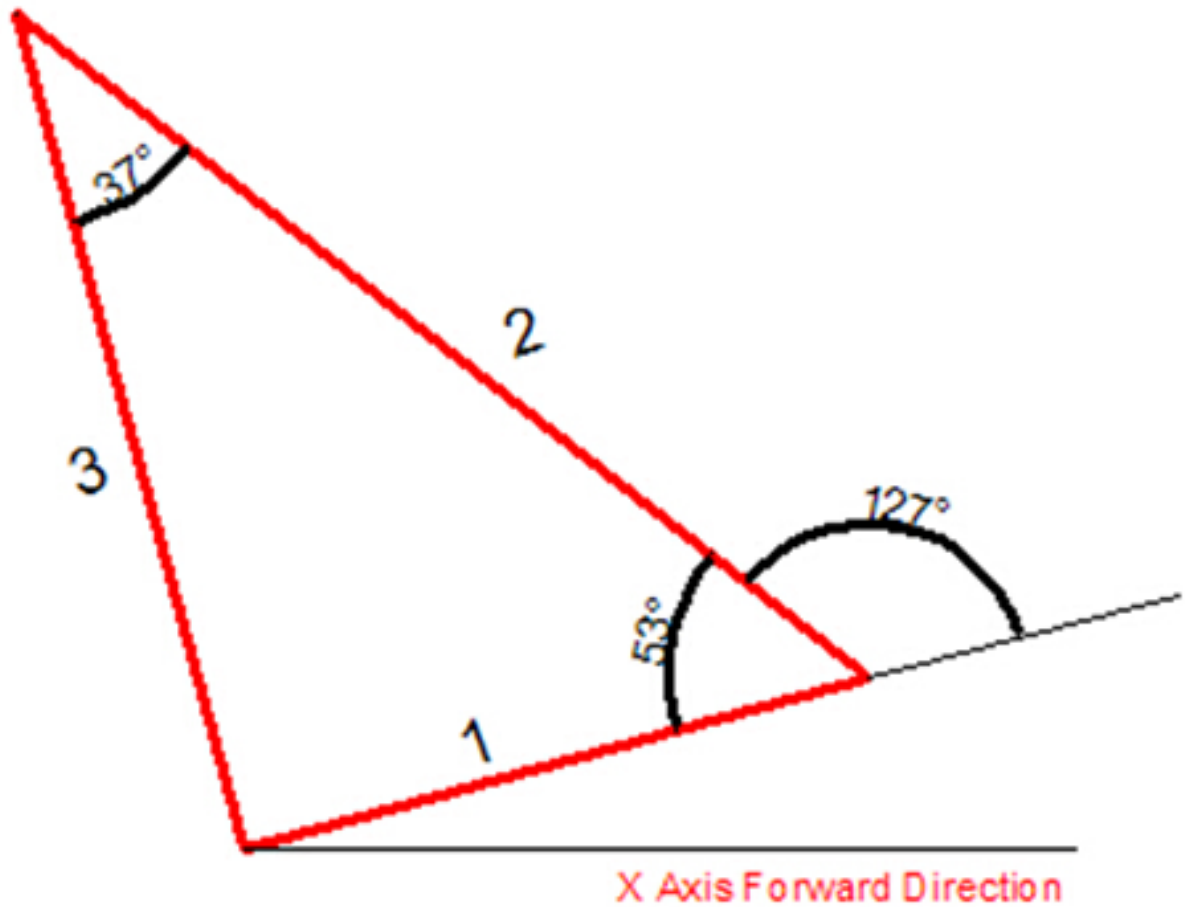

Figure 1-3
**To draw the red line in Figure 1-3, the steps as below:**